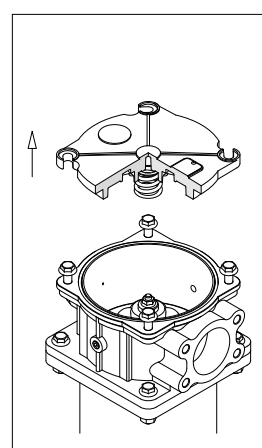

fig. 22
- (Fig. 22) Remove the cover to which the spring remains assembled